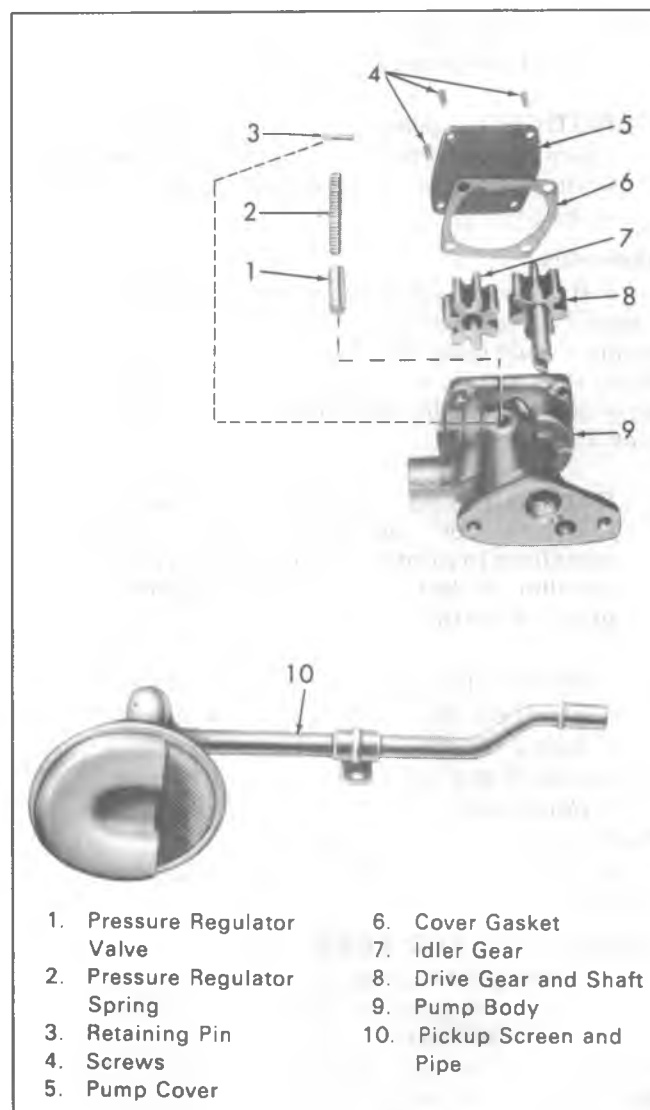

Fig. 6A1-26--Oil Pump
1. Remove the pump cover attaching screws, the pump cover and the pump cover gasket (fig. 6A1-26).